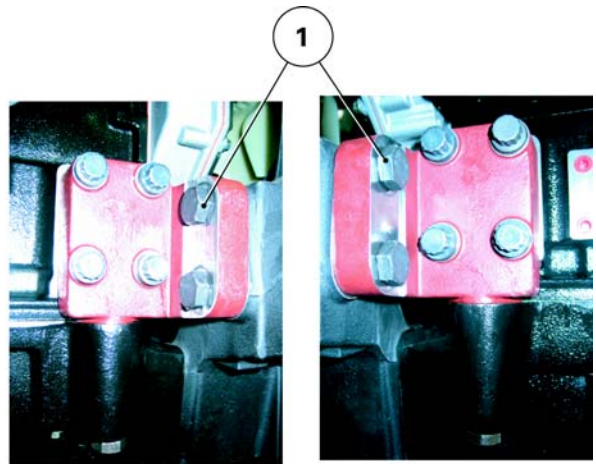

Fig. 15
- 28.** Fit and tighten the diametrically opposed screws (Fig. 15) in the following order:
- Screw (2): 480 -640 Nm.
- Screw (3): 800 -1040 Nm.
- Screw (1): 240 -320 Nm.